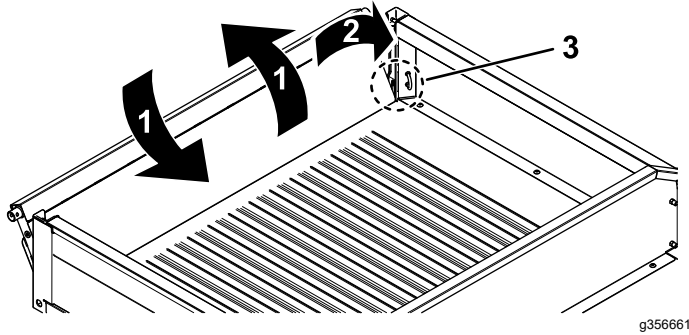

Figure 70
2. Rotate the tailgate to approximately the 45° position (Figure 70).
3. Use a short, shaking motion to rotate the tailgate back and forth several times (Figure 70).